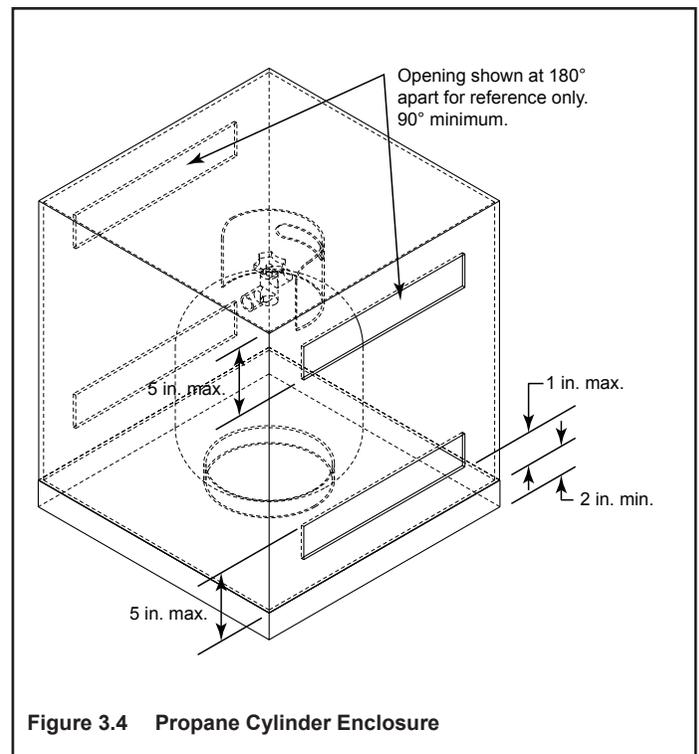

Figure 3.4 Propane Cylinder Enclosure
- A propane gas cylinder enclosure requires four ventilation openings at the top and bottom of the enclosure (Figure 3.4). The openings must adhere to the minimum requirements according to the capacity of the cylinder. (Listed below)
- Each opening of the enclosure must be equally sized and spaced a minimum of 90° apart (see Figure 3.4). Openings must remain unobstructed.